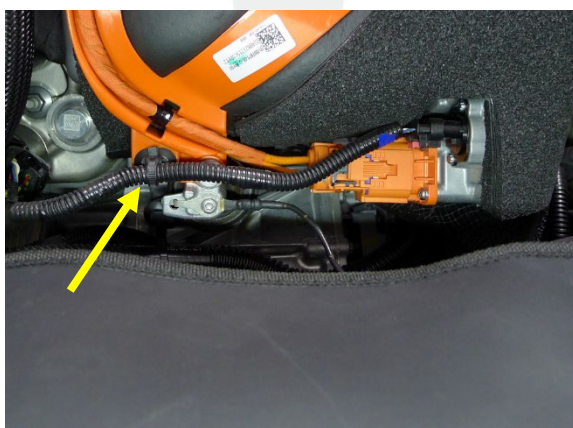

Figure 42
33. Fasten the clip that attaches the A/C compressor LV logic harness to the A/C compressor HV harness bracket (Figure 42).